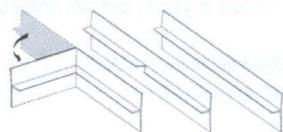

Fig 2.
Fit the Versatile Seal Strip to the tray or bath and simply mitre the lip with two 45° cuts the bend to form corner or butt joint (Fig 2).
Apply a small bead of silicone on the internal mitred corner before tiling, this will ensure a waterproof seal as shown in (Fig 2).
2. Push the hexagon end of the threaded leg tubes into the mounting brackets on the tray and attach the remainder of the mounting brackets (as feet) using the centre threaded section. Adjust the screw in feet height to suit the panels (Fig 2).
6. Place the shower tray in position and level using the adjustable legs (Fig 2), ensuring that panel height is maintained. Fit the waste outlet and connect to the waste pipe directly or via the 'flexi waste pipe' supplied.